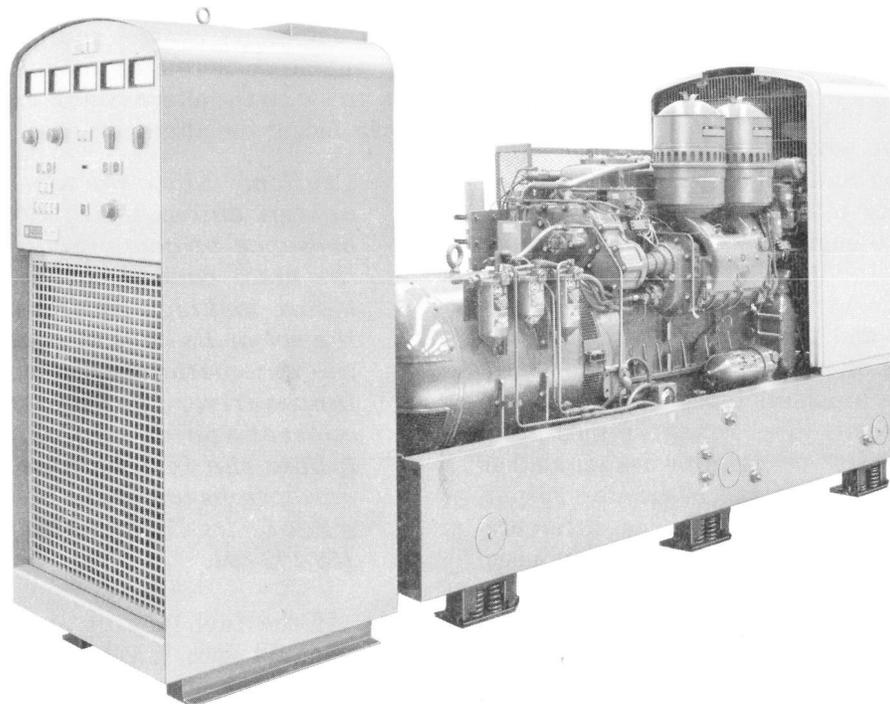

Fig. 1—3/4 Front View KS-19586 Diesel Engine—Alternator
1.03 These sets are manufactured by the General Motors Corp and are rated at 75 kW for the KS-19585 set and 115 kW for the KS-19586 set, 0.8 lagging to 0.8 leading power factor, 208- to 240-volt, 60-Hz, 3-phase, 4-wire distribution. The engine and alternator sets are mounted on a common subbase in an inline arrangement (see Fig. 1, 2, 3, and 4). List numbers are used to identify sets as follows: